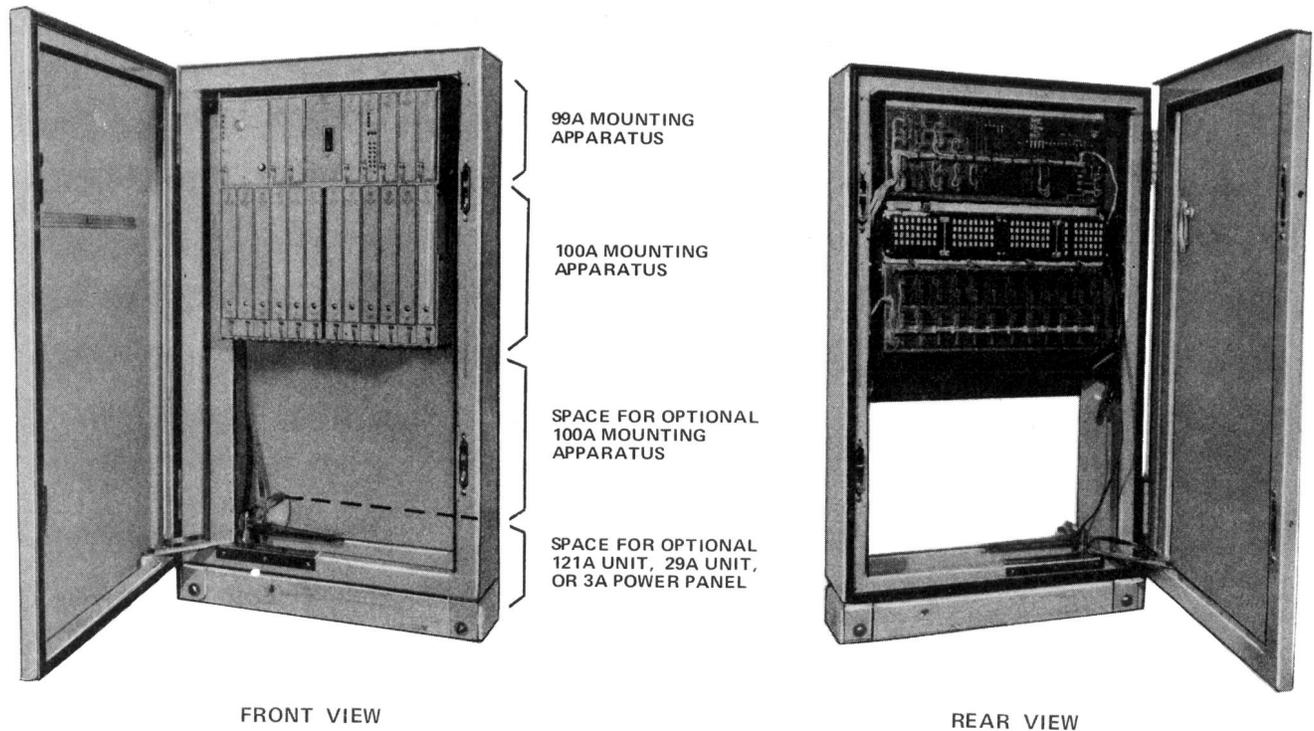

Fig. 1—35A Cabinet
2.01 The 35A cabinet (Fig. 1) consists of a weatherproof cabinet equipped for the crossarm fixture or pedestal mounting and framework for mounting the following assemblies: